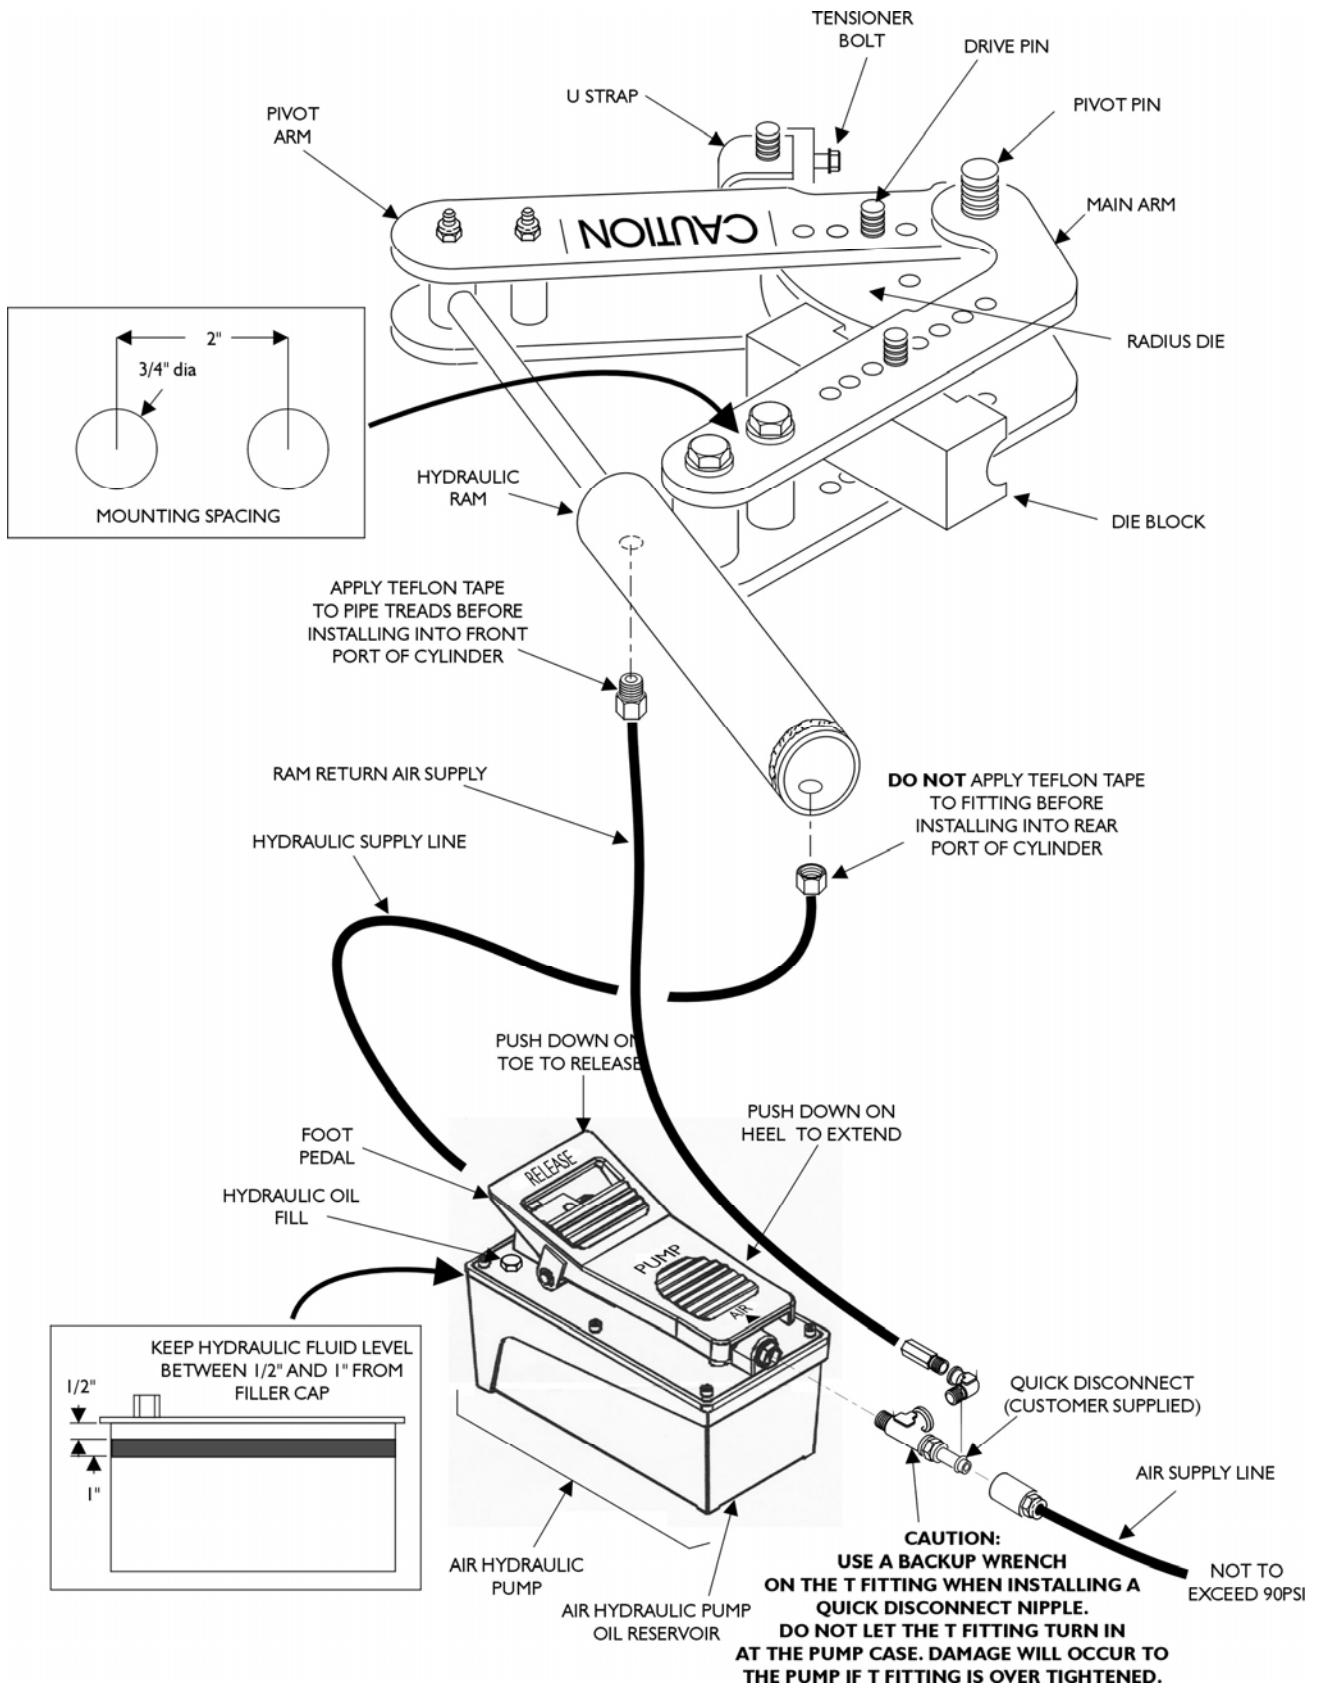

Figure 1. Bender overall view.
4. See Figure 1 for mounting dimensions.
2. Connect the foot control to an air supply, not to exceed 90psi as shown in Figure 1.
3. Using the foot control valve (heel down to extend and toe down to retract), cycle the bender cylinder several times and check that the level of hydraulic oil is between ½” and 1” from the fill plug. Add hydraulic oil if necessary. See Figure 1.
1. Connect the foot control valve to an air supply, not to exceed 90lbs as shown in Figure 1.
7. Using the foot control valve, extend the ram (down on the heel portion of the foot valve. See Figure 1.) to the full stroke (or as needed for shorter bends).